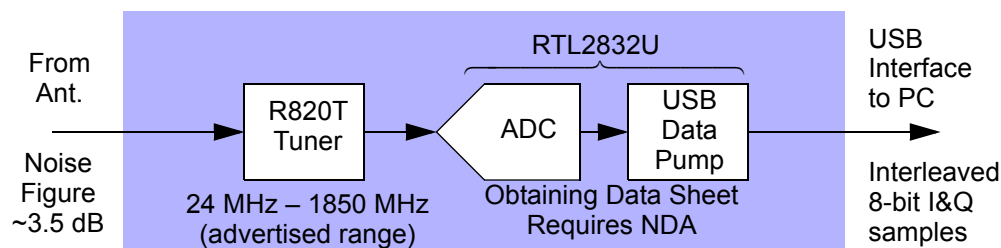
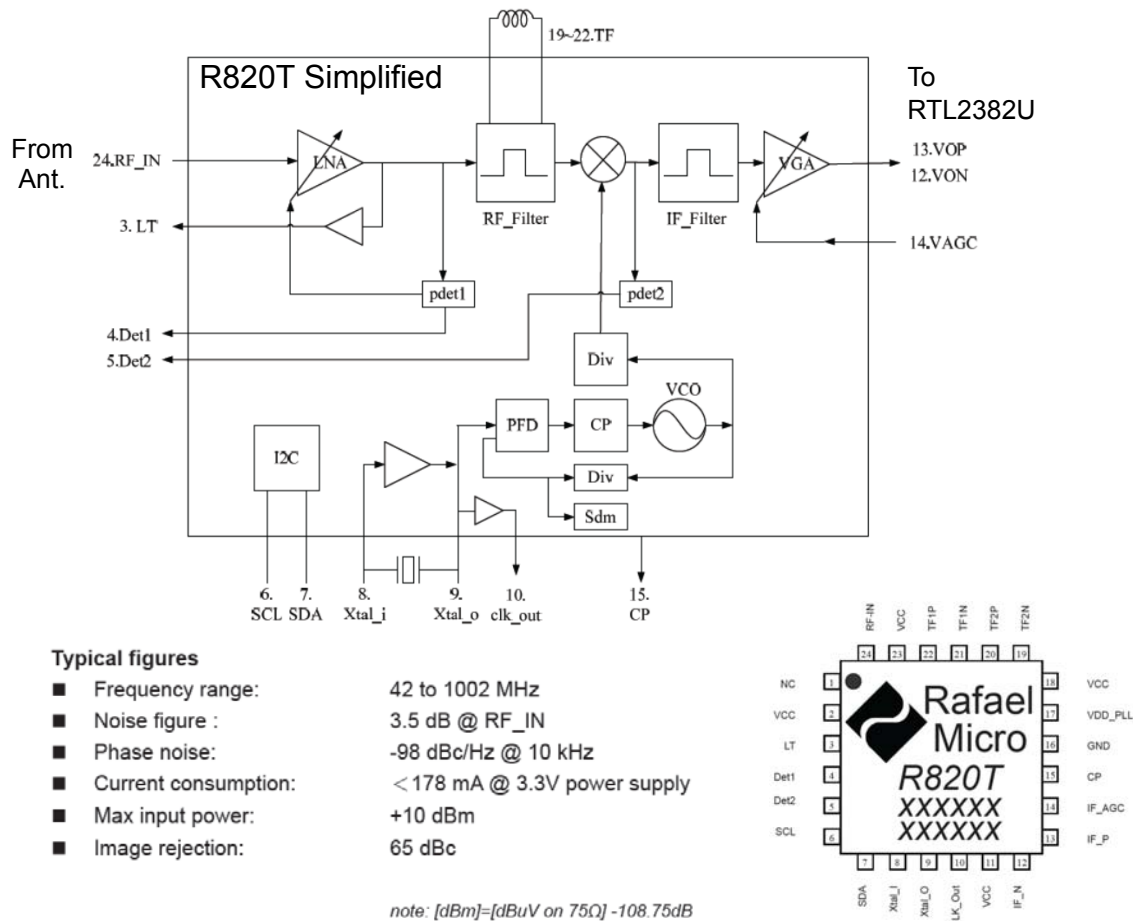

Figure 2: The RTL-SDR high level block diagram.
Figure 3: Simplified block diagram of the R820T tuner which is used in the RTL-SDR.
The basic chip configuration is depicted in the block diagram of Figure 2. The tuner chip serves as the radio frequency (RF) front-end for the SDR. Following a miniature coax connector for the antenna is a low noise amplifier (LNA) providing a noise figure (NF) of about 3.5 dB. The advertised tuning range of the R820T is 24 MHz to 1850 MHz. Not shown in Figure 2 are the inputs to set the sampling rate f_s and the tuner RF gain. These two SDR attributes will be discussed more later. A simplified view of the R820T tuner internals is shown in Figure 3. The
received RF to an intermediate frequency (IF). The tuning resolution is 1 Hz, or so it seems from the information available on the internet. Gain control is also provided, both at the LNA and at the output via a variable gain amplifier (VGA). The term automatic gain control (AGC), seen in Figure 3, refers to the use of a signal strength sensing circuit/algorithm to feedback a control signal to the gain control circuitry of an RF receiver. In this case that is the VGA and perhaps the LNA.